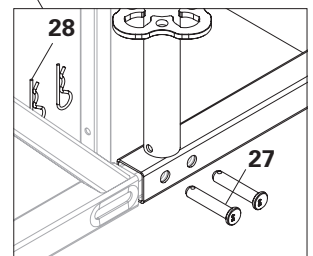

Fig. A1.05a
3. Secure bolt \varnothing 16 x 70 (**27**) with cotter pin 4/1 (**28**). (Fig. A1.05a)